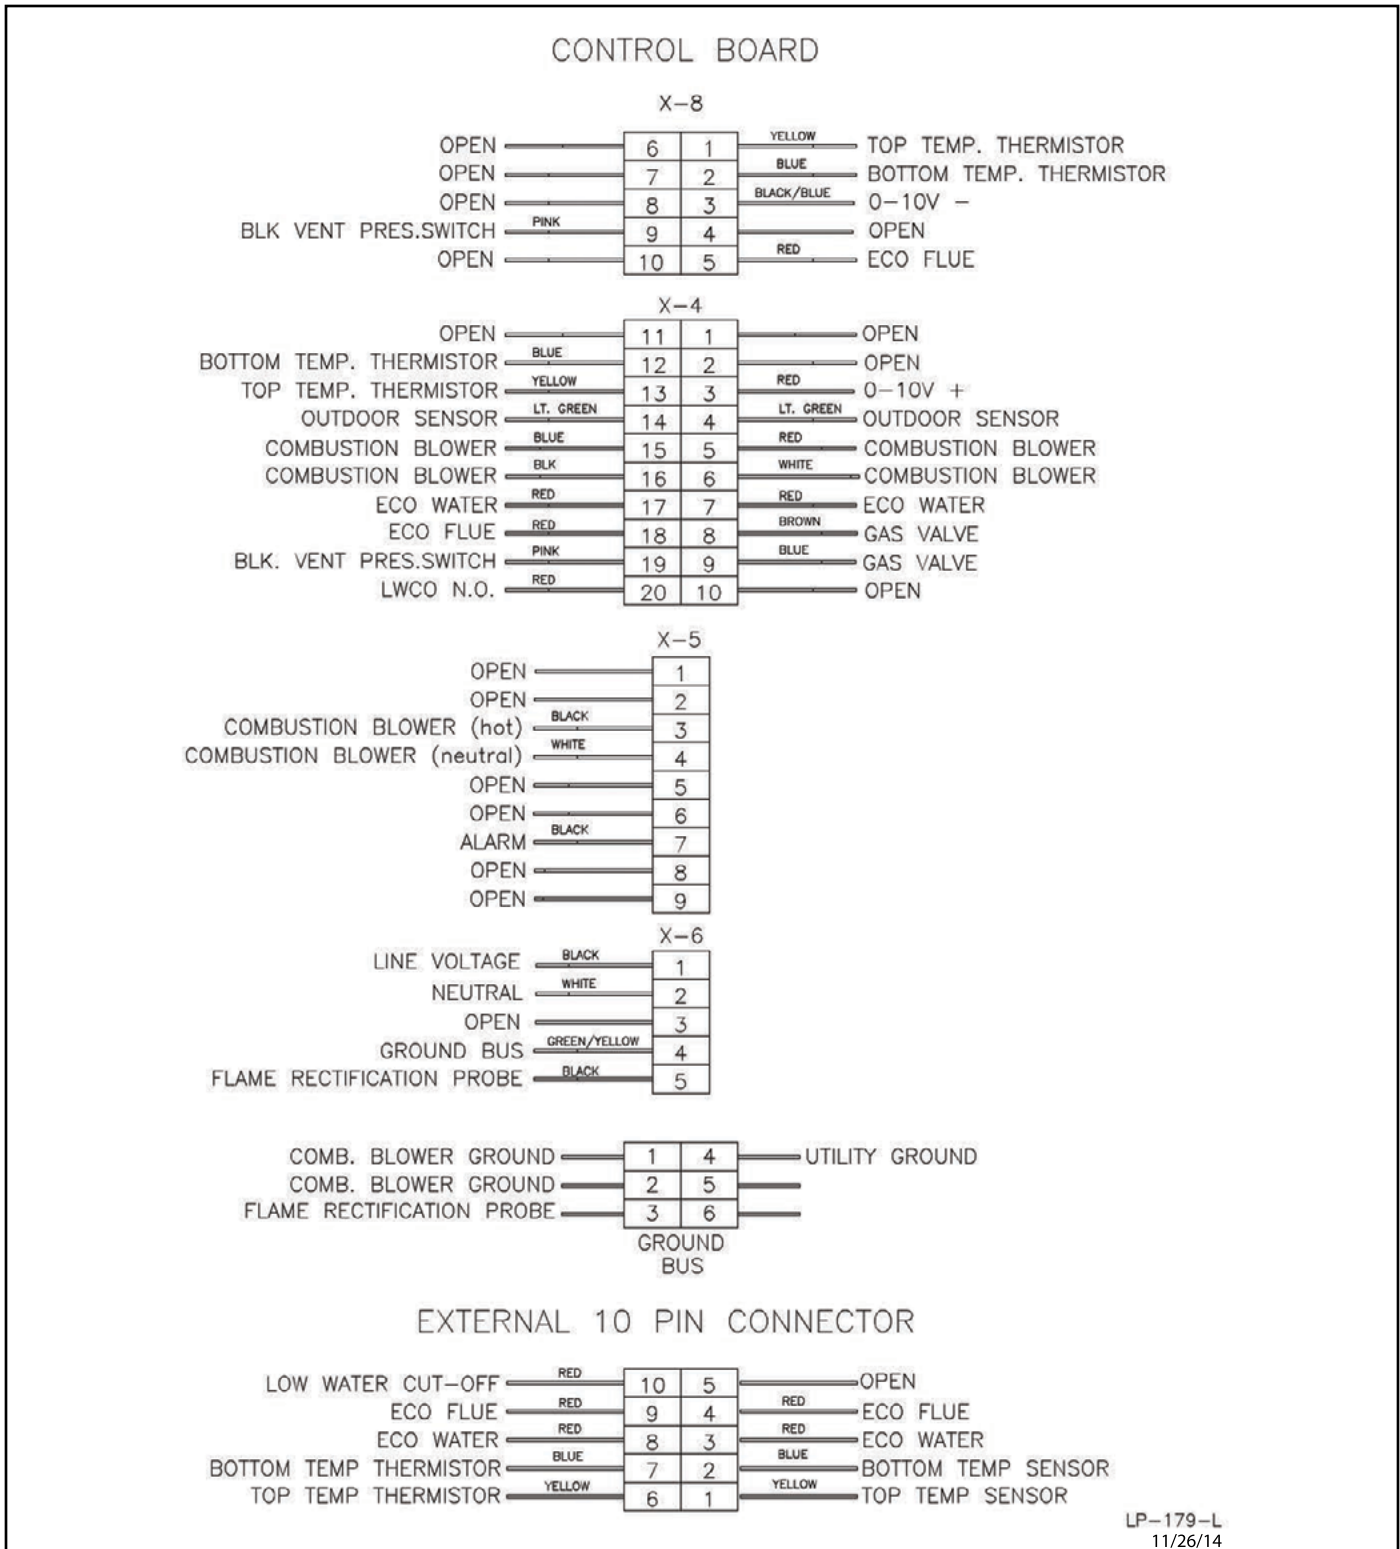

Figure 25 - Control Board Wiring
1. Connect a building management system or other auxiliary control signal to the terminals marked 0-10 VOLT + and 0-10 VOLT – in the electronics assembly (shown in Figure 25). Caution should be used to ensure that the 0-10 VOLT + connection does not become connected to ground.